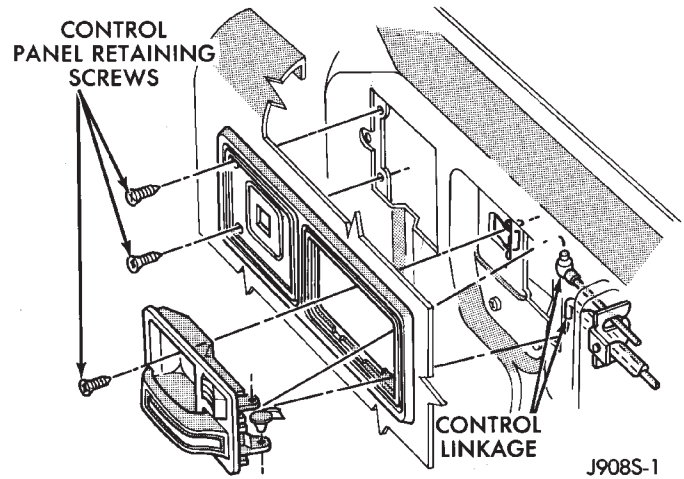
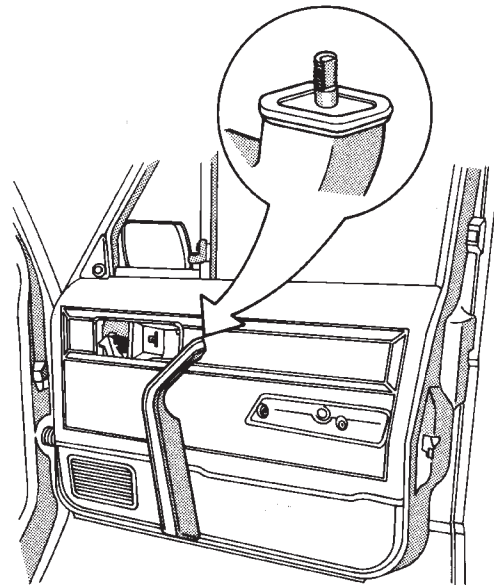
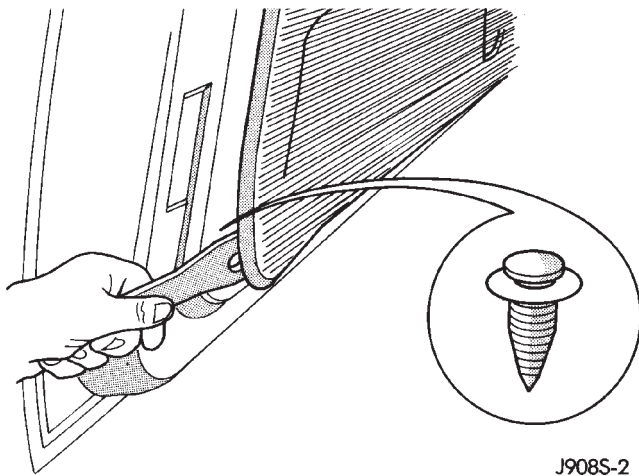

Fig. 8 Power Window Control Panel Removal/Installation
Fig. 9 Armrest Retainer Clip
Fig. 10 Trim Panel Removal
(1) Remove interior door latch release assembly and control panel retaining screws (Fig. 8).
(2) Disconnect control linkage and wire harness connector.
(3) Remove latch release and control panel assembly.
(4) Remove armrest lower retaining screws.
(5) Swing armrest downward to a vertical position. This is necessary to disconnect armrest from upper retainer clip (Fig. 9).
(6) Pull armrest straight out from trim panel.
(7) Remove trim panel with a wide flat blade tool (Fig. 10).